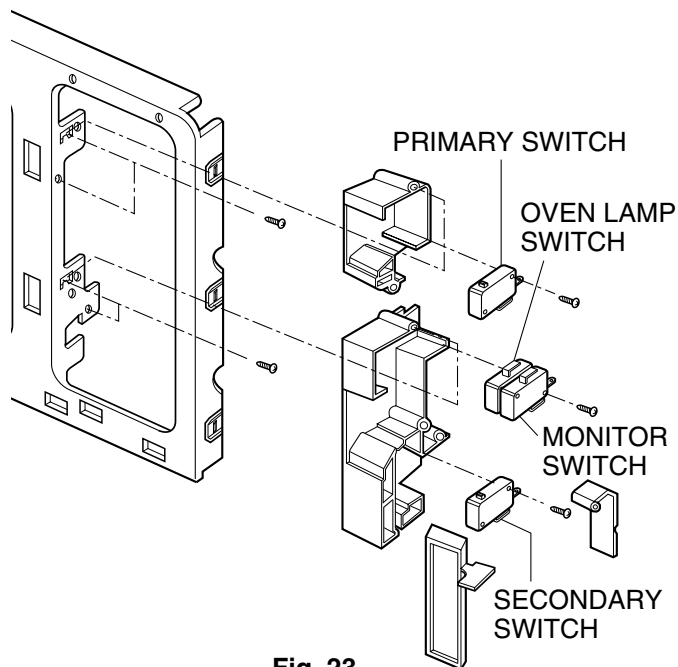

Fig. 23
K. REMOVING PRIMARY INTERLOCK SWITCH (FIG. 23)
- (1) After removing the complete control pane assembly, disconnect the wire leads from the switches.
- (2) Remove two screws holding the latch board-U to the front plate flange.
- (3) Remove the latch board-U from the flange by moving it upward and push outward.
- (4) Remove one screw securing primary switch to the latch board-U.
- (5) Remove the switch from the latch board-U.
L. REMOVING SECONDARY INTERLOCK SWITCH, MONITOR SWITCH AND OVEN LAMP SWITCH (FIG. 23)
- (1) Disconnect the wire leads from the switches.
- (2) Remove two screws holding the latch board-L to the front plate flange.
- (3) Remove the latch board-L from the flange by moving it upward and push outward.
- (4) Remove the individual switch from the latch board-L by removing two screws.